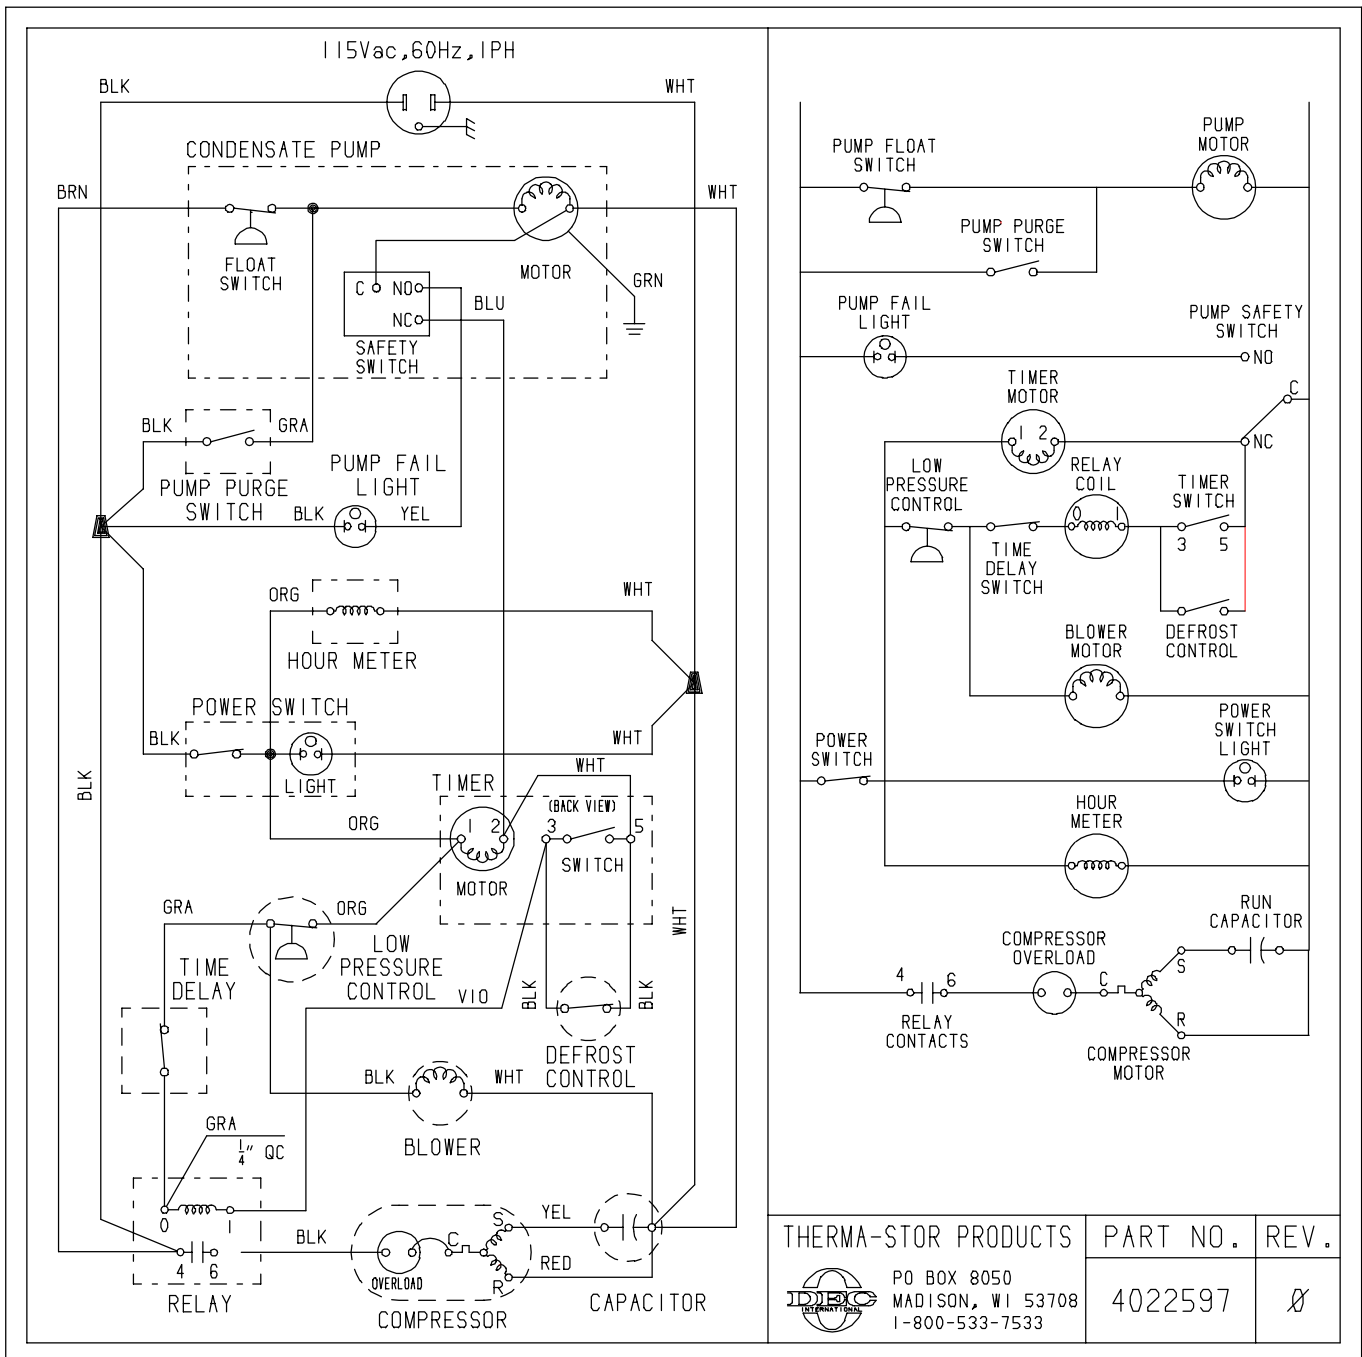

Figure 3: Electrical Schematic of Phoenix 300
1. Bad connection in pump circuit (Fig. 3).
1. Loose connection in blower circuit (Fig. 3).
3. Bad connection in pump circuit (Fig. 3).
1. Bad connection in purge switch circuit (Fig. 3).
This compressor is equipped with a two terminal external overload, run capacitor, but no start capacitor or relay (see Fig. 3).